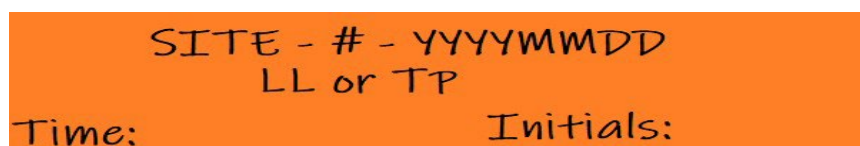

Figure 11: Example sample label
1. All water sample bottles should be labeled with site name and date (Figure 11).